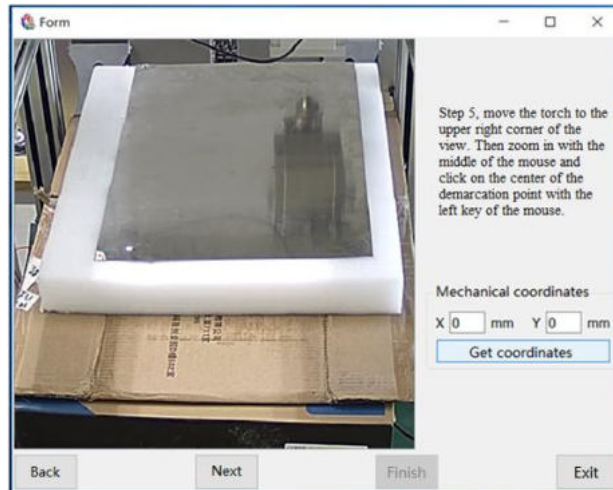

Figure 13.6 Obtain the fourth coordinate point
- After the third point is calibration, click "Next" to complete the fourth calibration point, operate the machine tool to move the gun to the upper right corner of the view, click the middle mouse button to enlarge the figure, click the center of the calibration point with the left mouse button, click the "Get coordinates" button in the interface to obtain the mechanical coordinates X, Y, as shown in Figure 13.6: